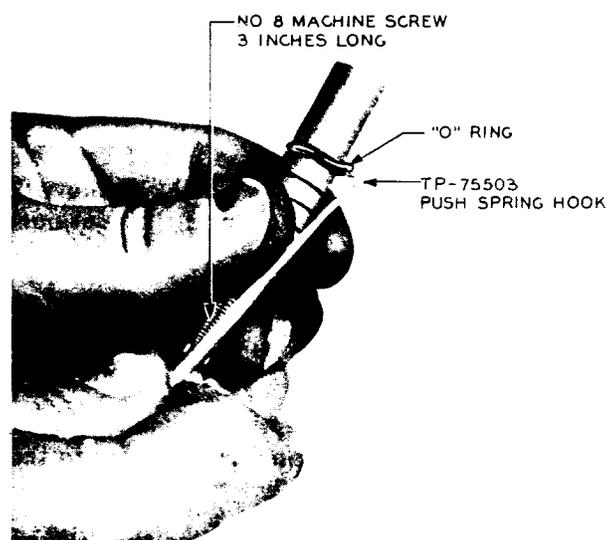

**Fig. 25 — Hole-Enlarging Control Unit (cover removed)
3.40 Hole-Enlarging Control Micro Switch (D5): Fig. 25 — To replace the Micro Switch, remove the cover from the left side of the housing of the hole-enlarging control unit using the proper size Allen wrench. Then, remove the Micro-Switch mounting screws and clamping plate with the proper size Allen wrench. Remove the switch taking care not to displace the insulator. If the insulator is damaged, replace it. Transfer the terminals with leads from this Micro Switch to the corresponding terminal positions on the new Micro Switch using the 3-inch C screwdriver to remove and tighten the terminal mounting screws. Apply a small amount of KS-6824 sealing compound around the head and adjacent surface of each Micro-Switch terminal mounting screw with a KS-14164 brush. Mount the switch and securely tighten the mounting screws. Check the Micro-Switch operation as covered in Section 076-143-701. Remount the cover and securely tighten all screws.
3.41 Pilot Pin: Fig. 25 — To replace the pilot pin, loosen the pilot pin guide nut using the R-1542 wrench. Then bend out the end of a paper clip and insert this end into the hole in the pilot pin. Remove the pilot pin by turning it counterclockwise with the clip. Mount the new pilot pin. Adjust the clearance between the pilot pin and carriage as covered in Section 076-143-701, and securely tighten the locknut while holding the pilot pin in position with the paper clip.
- (1) The pilot pin cylinder has two "O" rings, one in the plug at the top of the cylinder (Fig. 25) and one on the upper section of the shaft. Remove and replace both "O" rings even if the indications are that only one is defective.
- (f) Place several KS-14666 cloths on the table below the hole-enlarging control unit housing to protect the carriage and table top. Remove the two screws on the front mounting surface of the housing (Fig. 25) and the three mounting screws at the side using the proper size Allen wrench. Remove the housing from its support and free it from the tubing. Use the 4-inch E screwdriver, if necessary, to pry the housing from its support taking care not to damage